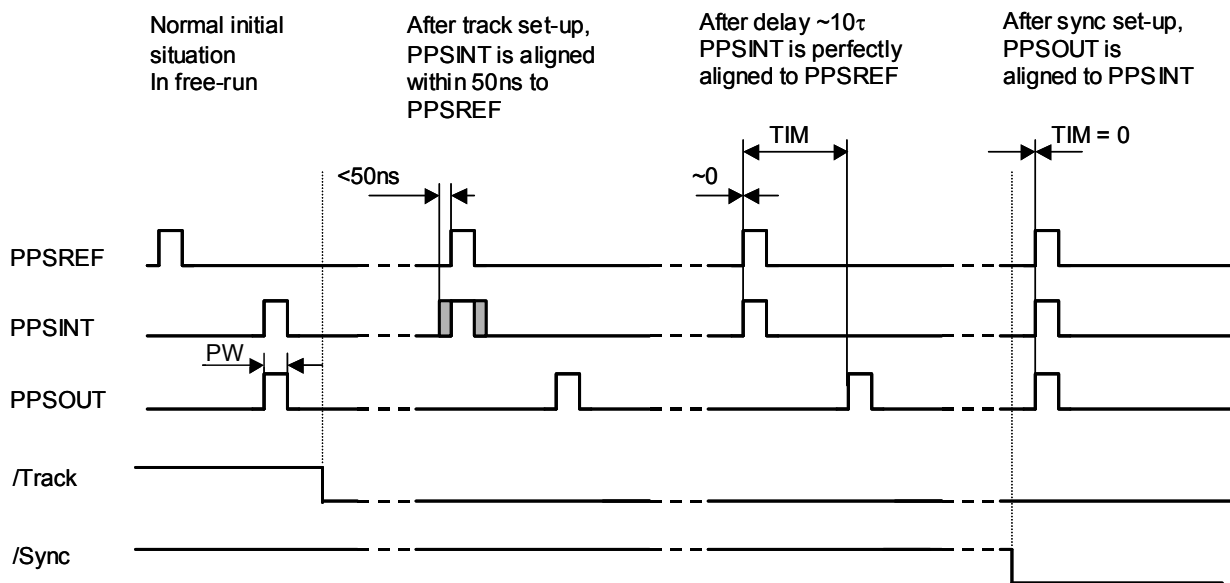

Fig. 2-3 : “Track” mode and “Sync” mode.
- 2) The pps int , see Fig 2.3, is gently aligned to pps ref. This can take 1 minute.